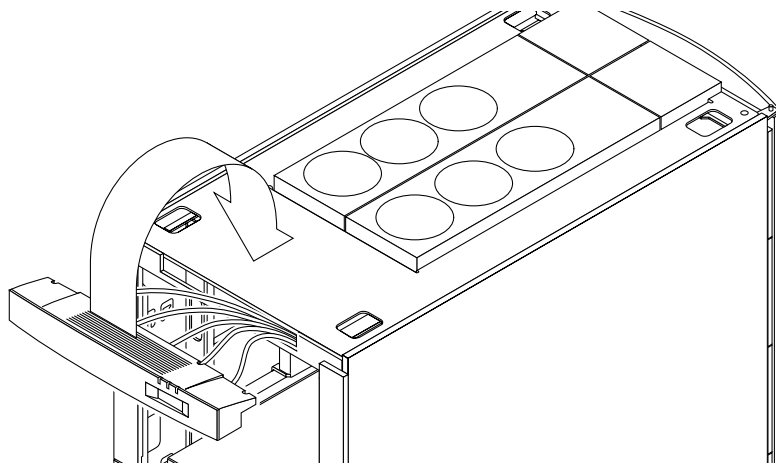

FIGURE 3-3 FrameManager Removal—Step 2
2. Slide the assembly forward and carefully flip it onto the top of the cabinet to access the cable connector on the rear of the assembly (FIGURE 3-3).